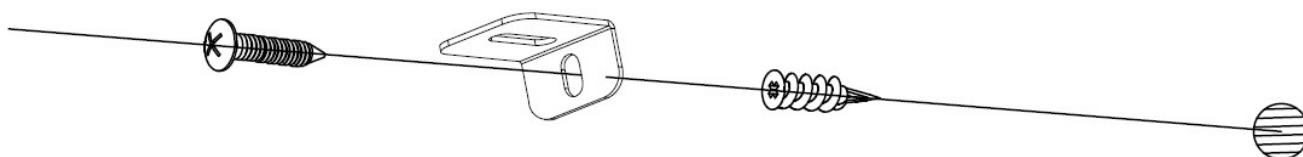

Fig 1-3
Step 3. Install the plastic anchor (**B**) into the drywall, then install the screw **A** (supplied) into the hole of the **L-bracket** into the wall anchor to secure the fireplace from coming off the bracket. **Fig 1-3**